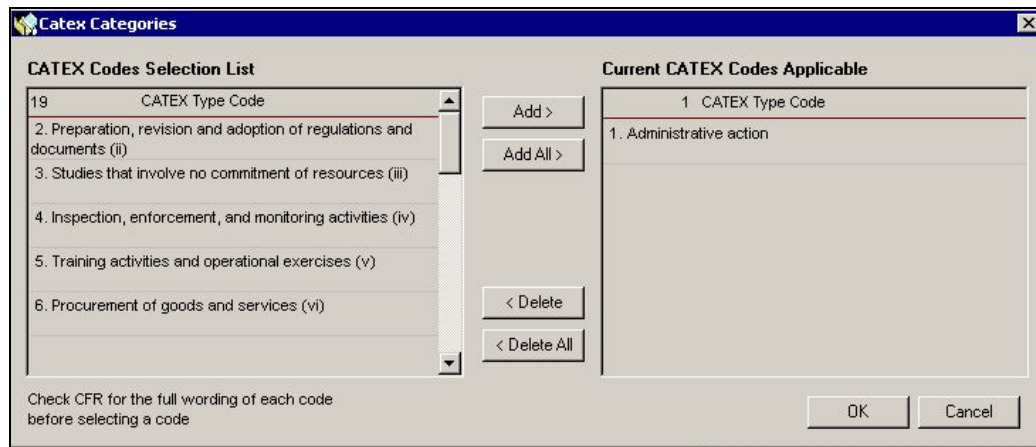

Figure 7-47: CATEX Categories
- d. Click the SELECT APPLICABLE 10.89(d) CATEX(s) button. The Catex Categories window is displayed (Figure 7-47).